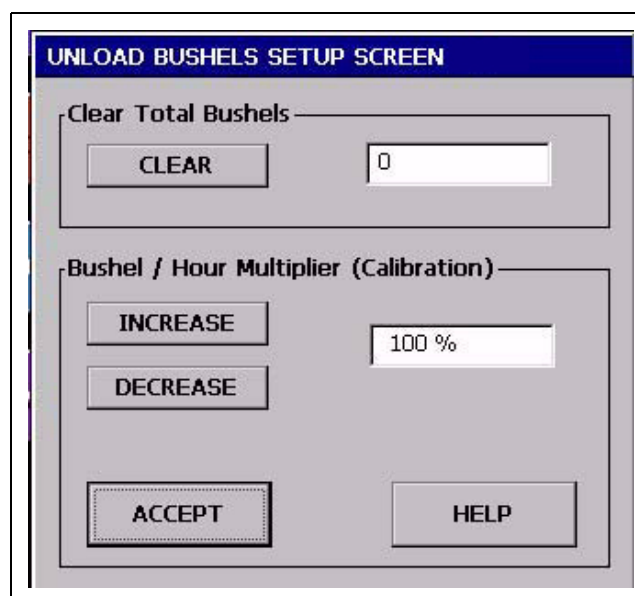

Figure 6J
9.  allows the dryer throughput meter to be calibrated on Figure 6J.